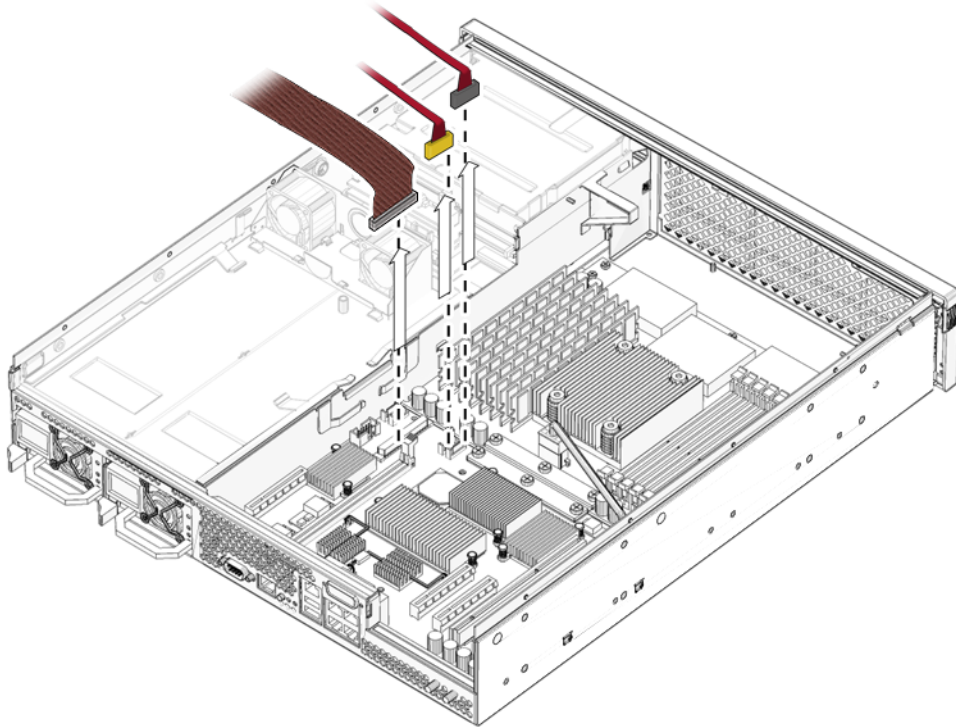

FIGURE 4-23 Disconnecting the Cables From the Motherboard Assembly
4. Disconnect the cables from the following connectors on the motherboard assembly (FIGURE 4-23):